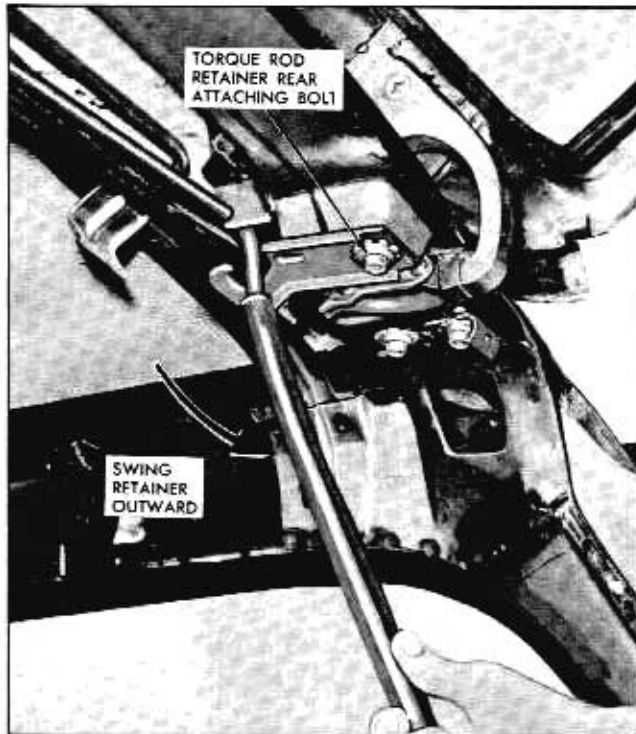

Fig. 10A-58 Back Door Hinge and Torque Rod Removal
3. To install back door assembly, first, as an anti-squeak precaution, apply a coat of heavy-bodied sealer to attaching surfaces of both hinges (Fig. 10A-56); then, reverse removal procedure. Align back door with previously made hinge marks.